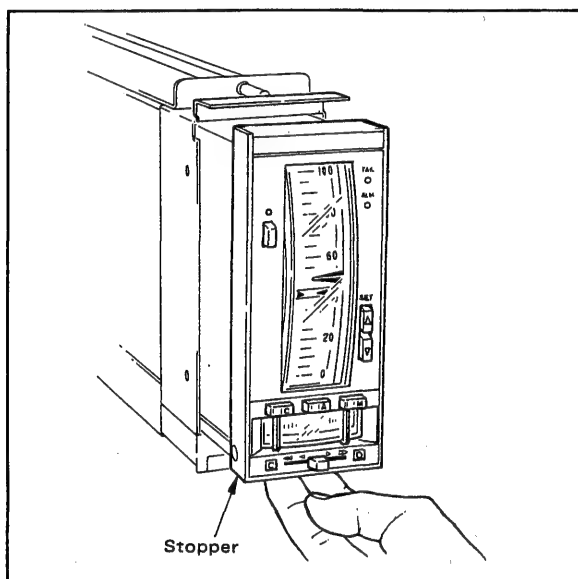

Figure 5-2-1. Pulling Out Internal Assembly.
- (1) Pull out the internal assembly by pushing up the stopper located below the front panel. When it is drawn out halfway, the internal assembly is restrained by an intermediate stopper. The tuning panel is fully operative at this stage. (See Figure 5-2-1.)